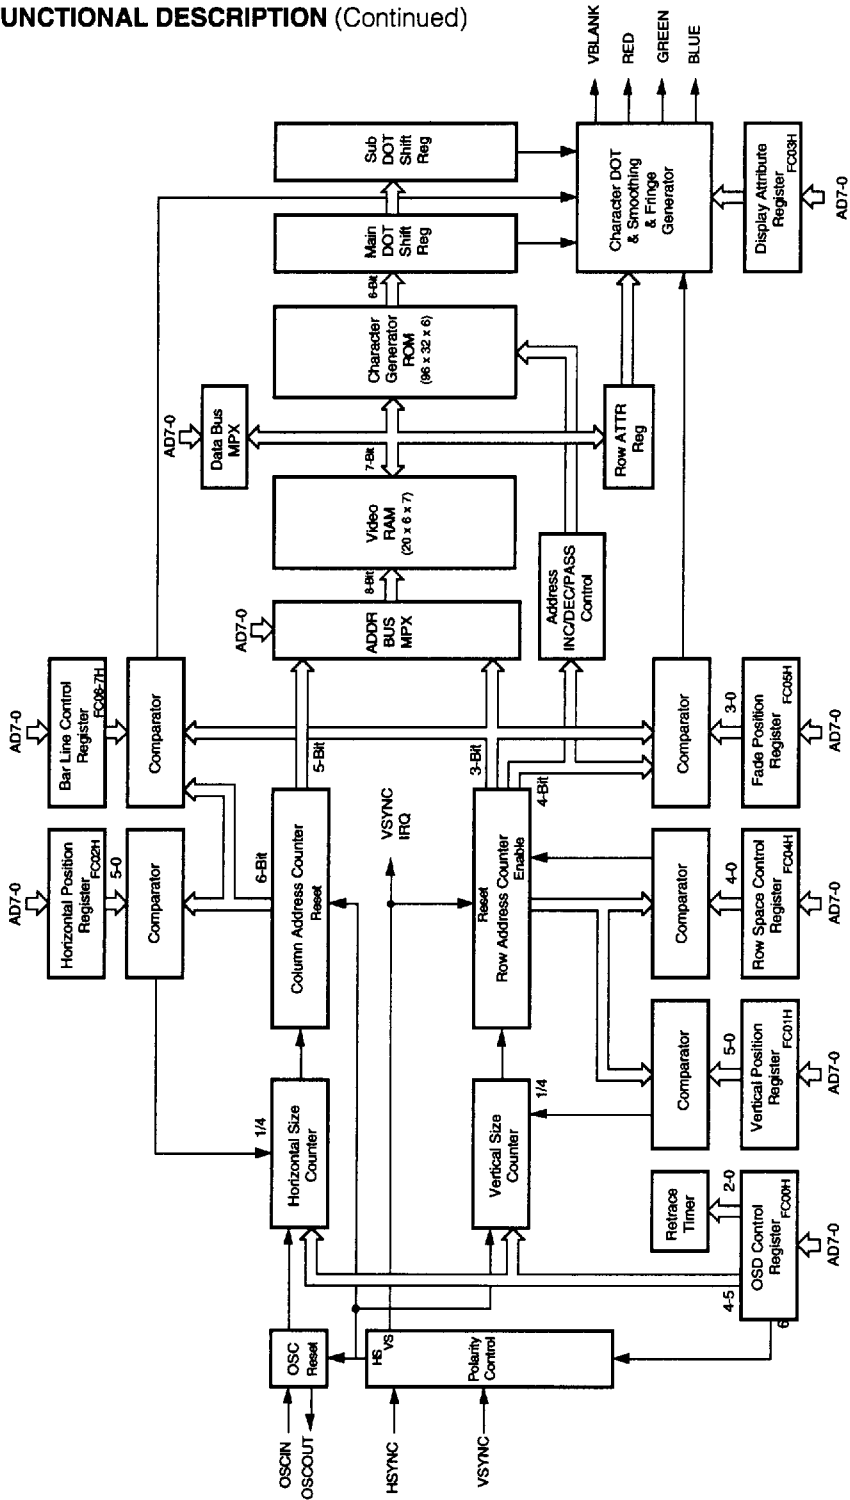

Figure 8. On-Screen Display Block Diagram
**On-Screen Display (OSD).** The OSD has a capability of displaying 6 rows x 20 columns of 96 kinds of characters for high resolution (11 x 15 dots) patterns (Figures 8 and 9).